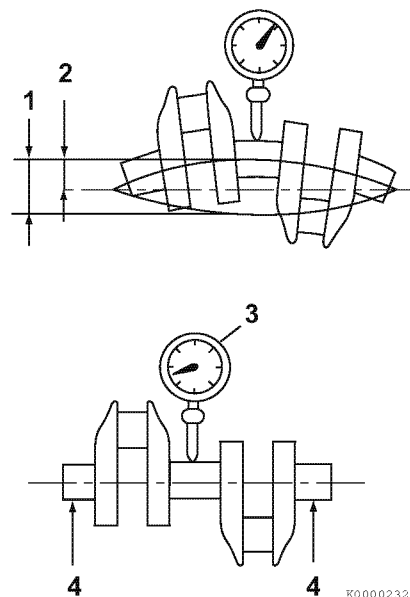

Figure 6-76
1. Place the crankshaft end journals (**Figure 6-76, (4)**) on V-blocks.
2. Place a dial indicator (**Figure 6-76, (3)**) on a center main bearing surface.